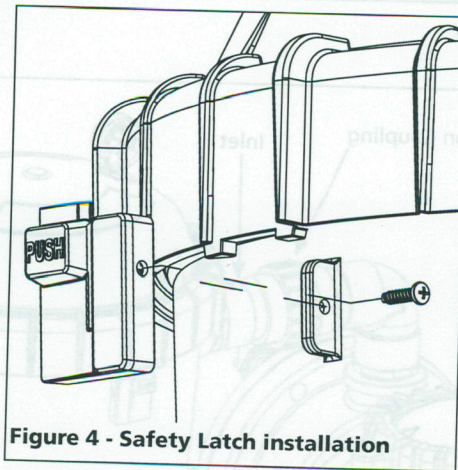

Figure 4 - Safety Latch installation
- Position the filter so that piping connections, control valves, drain and safety latch are accessible for servicing and winterizing. If necessary, the safety latch can be moved to the opposite side of filter tank to provide easier access (See Figure 4).
If necessary, the safety latch can be moved to the opposite side of the filter tank to provide easier access (See Figure 4).